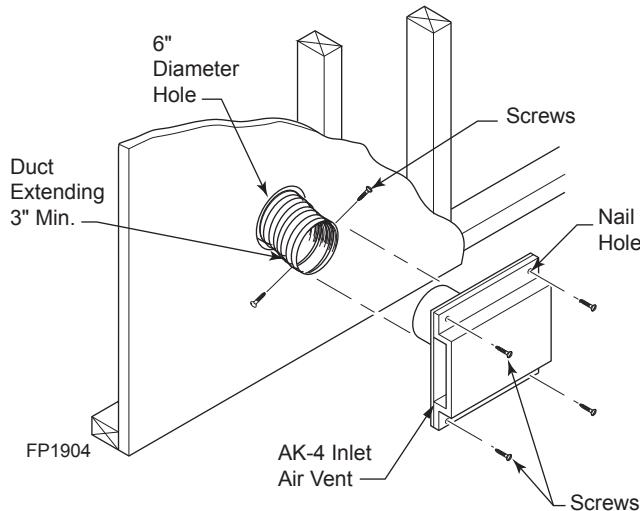

Figure 18 -
5. Cut a 6-inch diameter opening for model AK-4 in the outside wall covering where the outside vent is to be located. *Figure 18*